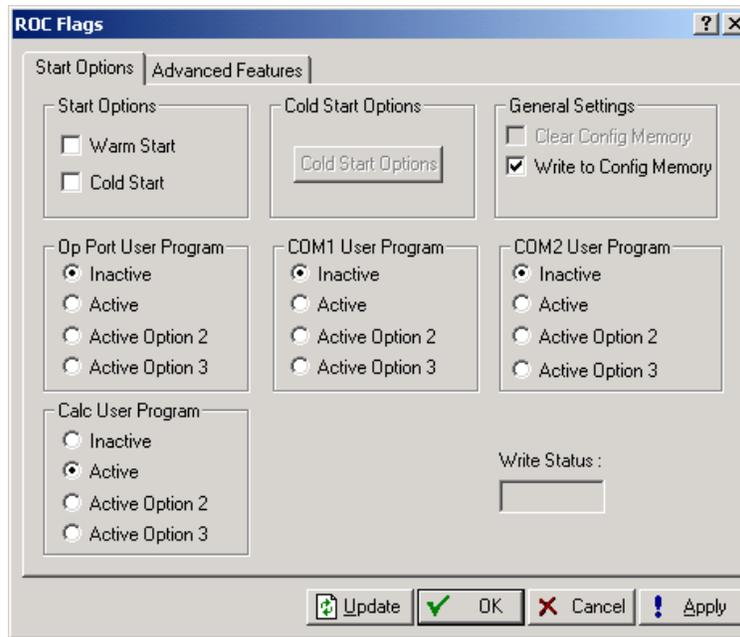

Figure 4. ROC Flags Dialog Box
8. To restart the program in the event the program becomes inactive, such as after a cold start, select **Flags** from the ROC menu to display the ROC Flags dialog box, shown in Figure 4.